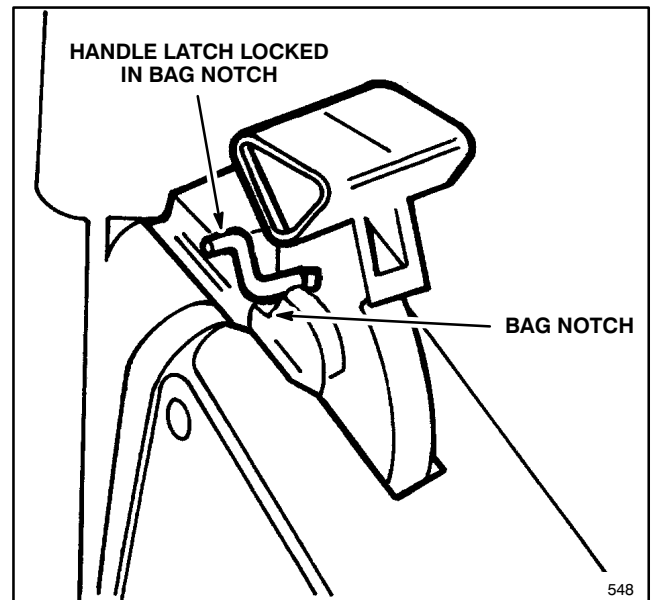

Figure 5
4. Pull discharge door handle backward until handle latch locks in bag notch (Fig. 5). Discharge door in mower housing is now open.